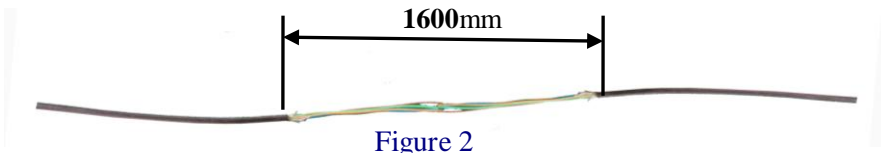

Figure 2
3.2 when straight-through cable stripping, should put the length of the fiber optic cable skin peeled off as about 1600 mm, Reserve reinforced core in 40 mm length and cut off the unnecessary ones. See figure 2